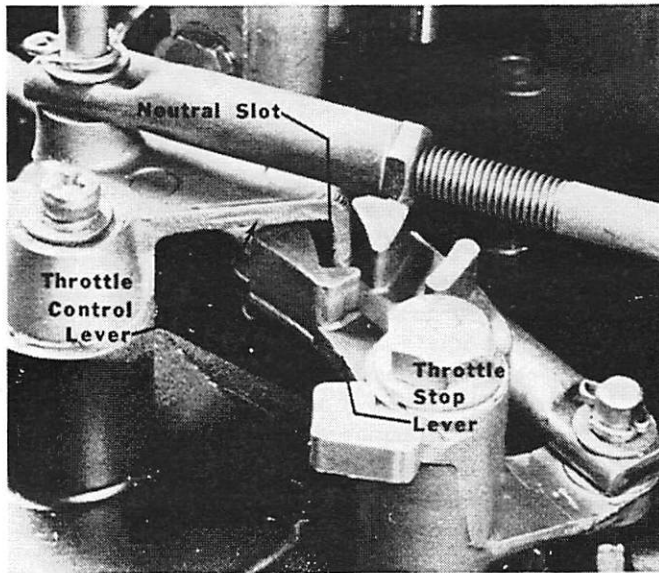

Figure 8. Throttle Control Lever Centered
2. Place motor in neutral gear; adjust throttle stop control rod so that throttle control lever is centered in neutral slot of throttle stop lever. (Figure 8)